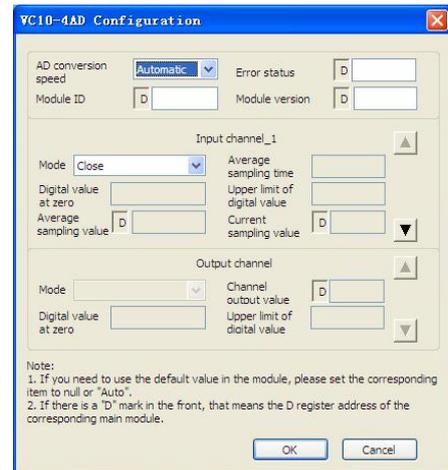

Figure 4-2 CH1 setting interface
- BFM#4094: module software version, displayed automatically as **Module Version in VC10-4AD Configuration** dialogue box of the host software, as shown in Figure 4-2.